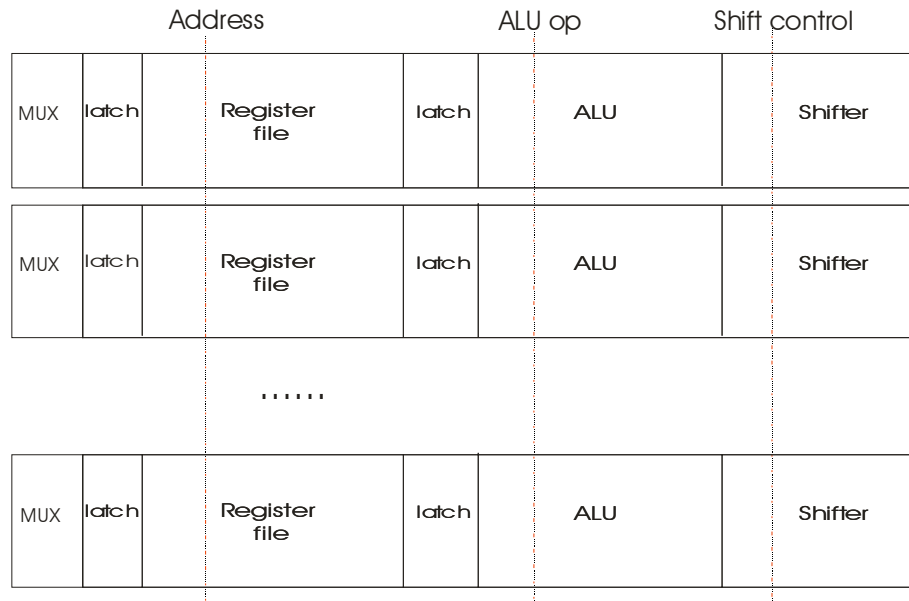

Fig. 2: Floorplan of the data path.
- **size specifications:** no specific layout size is required, but optimization of physical size is a design priority and higher scores will be awarded to groups with smaller layouts. The floorplan in Fig. 2 will assist in achieving an optimal layout.
The 8-bit datapath can be implemented by constructing a 1-bit slice horizontally and stacking 8 one-bit slices vertically. This layout floorplan for the data path is shown in Fig. 2. The data flows horizontally from the left to the right. The control signals run vertically across each slice.